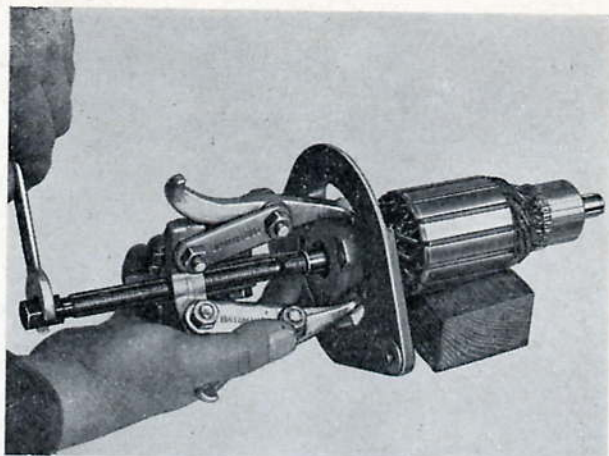

Fig. P.11. Withdrawing the drive end bracket from the armature
- (b) Withdraw the drive end bracket from the armature shaft with a suitable drag (Fig. P.11).